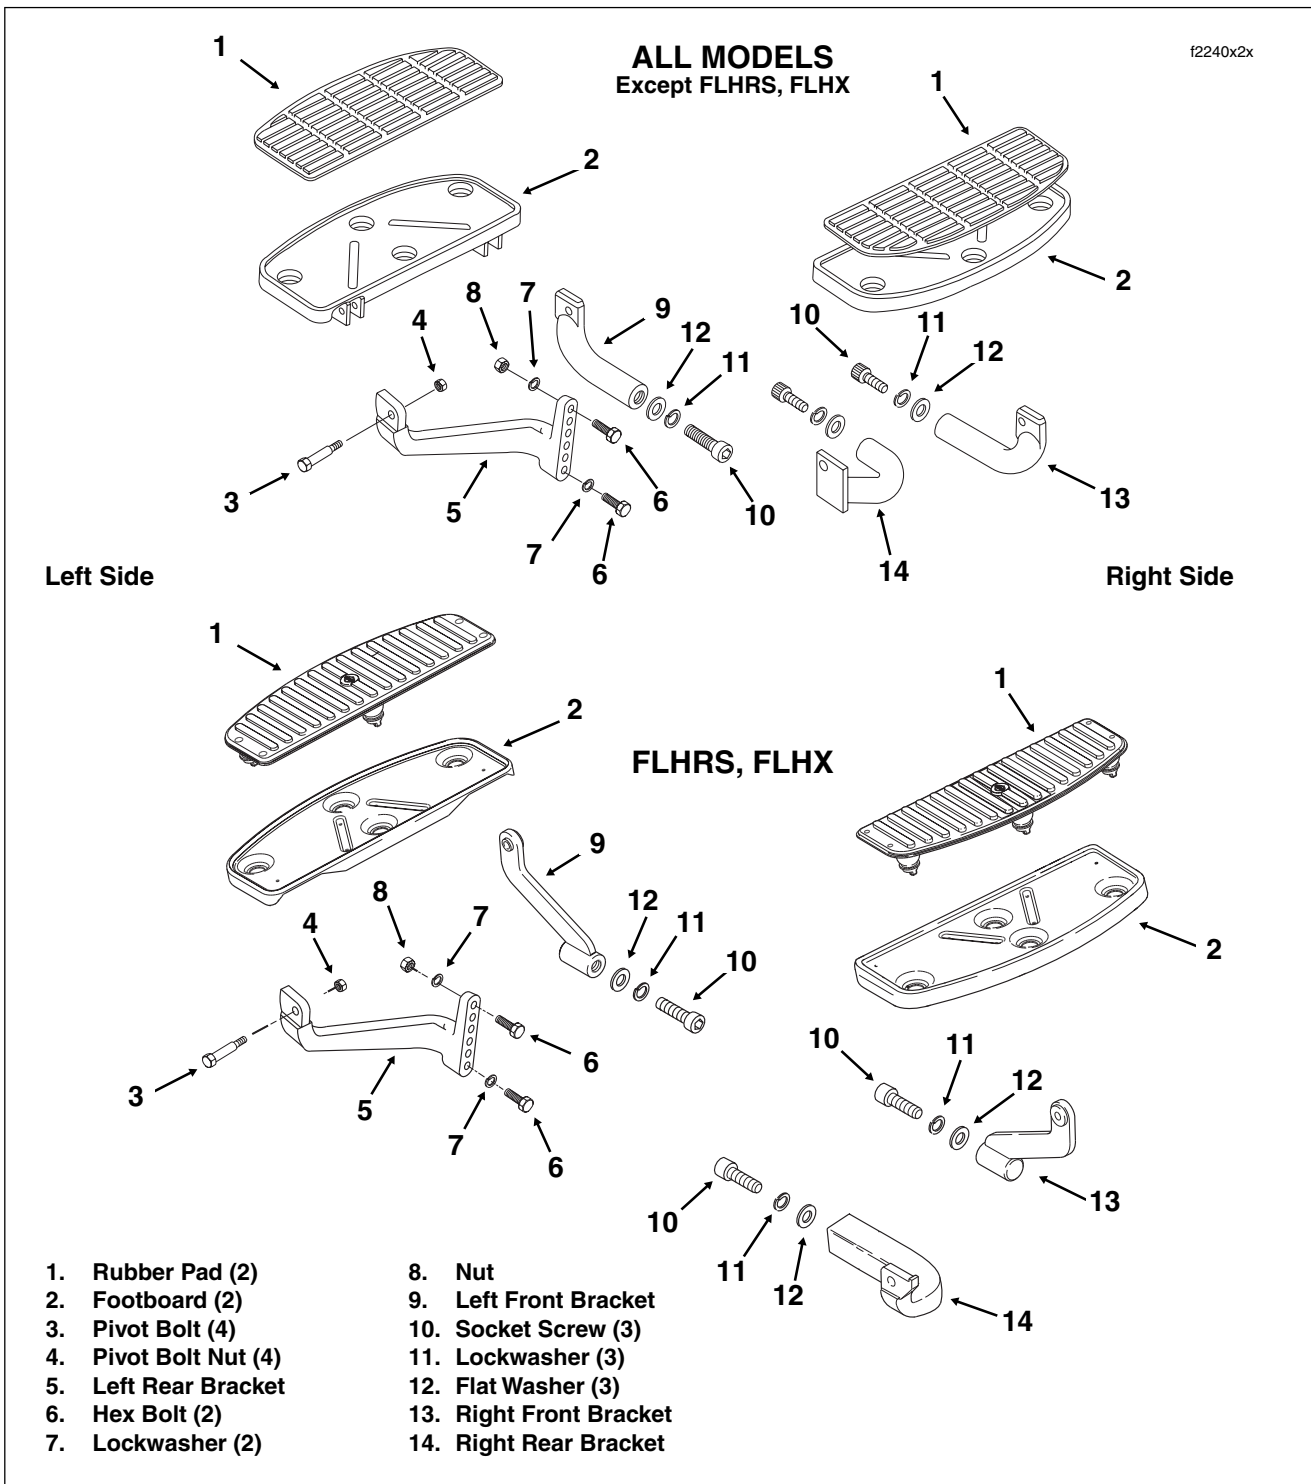

Figure 2-203. Rider Footboards
- a. Remove two allen head socket screws (with lock washers and flat washers) to release footboard brackets from frame weldment. See Figure 2-203. For best results, approach from left side of motorcycle using a 3/8 inch ball allen with extension.
- b. Remove socket screw (with lockwasher and flat washer) to release footboard forward bracket from frame weldment. See Figure 2-203. For best results, approach from opposite side of motorcycle using a 3/8 inch ball allen with extension.
- a. Insert two allen head socket screws (with lockwashers and flat washers) through frame weldment into footboard brackets. See Figure 2-203. For best results, approach from left side of motorcycle using a 3/8 inch ball allen with extension.
- a. Insert allen head socket screw (with lockwasher and flat washer) through frame weldment into footboard forward bracket. See Figure 2-203. For best results, approach from opposite side of motorcycle using a 3/8 inch ball allen with extension.